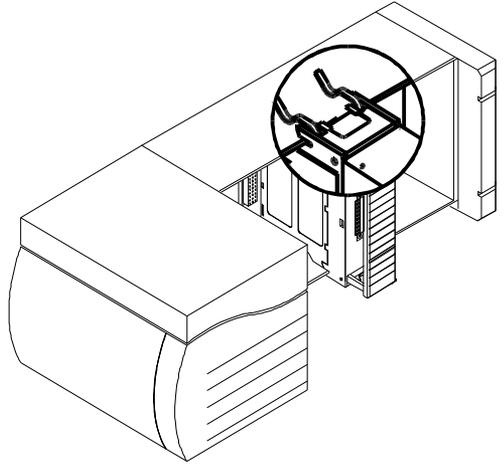

FIG. 3-2 MODULE RELEASE(S)
- Step 4. When the module connector is touching the backplane connector, firmly but carefully push toward the chassis until the pins are plugged in and the Processor Releases (both top and bottom) are snapped into place. (See Fig. 3-2 & 3-3)